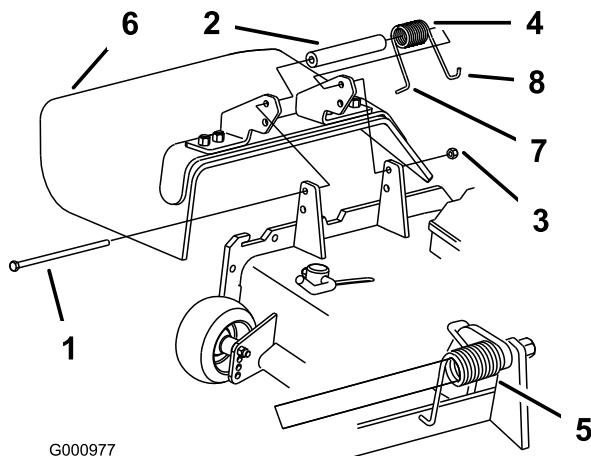

Figure 83
1. Remove the locknut, bolt, spring and spacer holding the deflector to the pivot brackets (Figure 83). Remove the damaged or worn grass deflector.
Note: Make sure the L end of the spring is installed behind the deck edge before installing the bolt as shown in Figure 83.
3. Install the bolt and nut. Place the **J** hook end of the spring around the grass deflector (Figure 83).